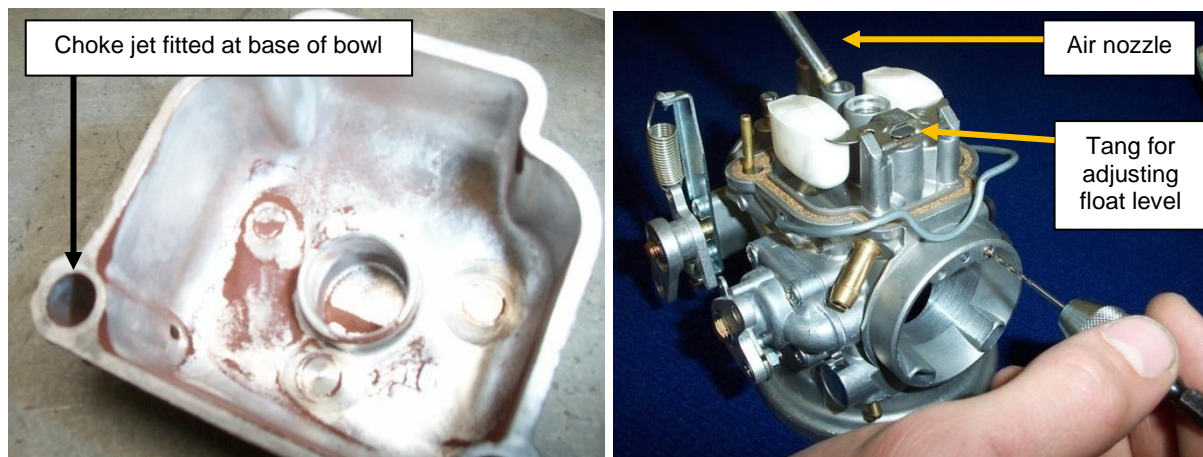

Figure 114 – Carburettor Updates
- To improve cold starting the choke jet may be enlarged. Drilling to 1.2mm is recommended for Australian applications. The choke jet is located in the bowl as shown in Figure 114 (left).
- To improve the engine's idle the idle jet port must be drilled out to 1.6mm. This is done at the factory during assembly but is worth checking at overhaul. Figure 114 (right) shows the drilling being done by hand. Note the air nozzle blowing into the idle jet to force the aluminium shavings from the drill out of the carburettor.
- On initial disassembly, check for contamination like that shown in Figure 114 (left). Contamination like this will be an early indicator for increased wear in the engine and will warn the overhauler to check thoroughly for wear on parts like cylinders.